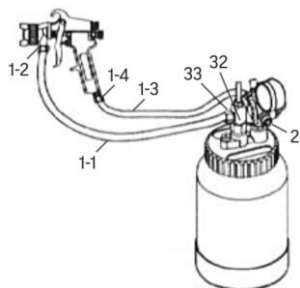

Fig. 1
1. Connect the black fluid hose (Fig. 1-1) to the fluid outlet (#33) on the cover centrepost (#32) and secure in place using the included wrench (Fig. 1).
2. Connect the other end of the black fluid hose to the bottom of the spray gun head (Fig. 1-2) and secure using the included wrench (Fig. 1).
3. Connect the red air hose (Fig. 1-3) to the air connection (#2) located on the regulator assembly (#14) (Fig. 1).